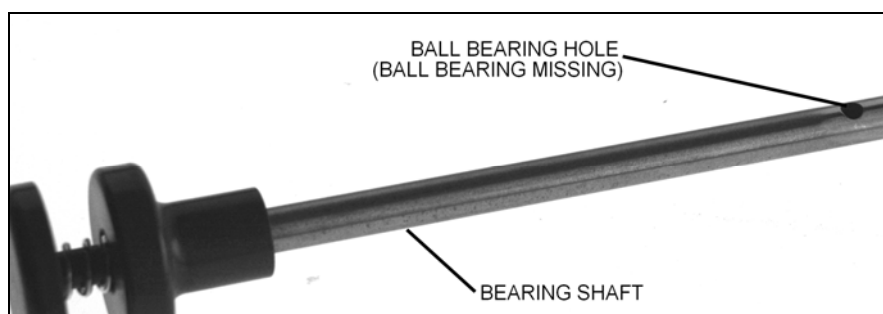

Figure 3
2. The **BALL BEARING HOLE** on the **BEARING SHAFT** should be empty. (Figure 3)